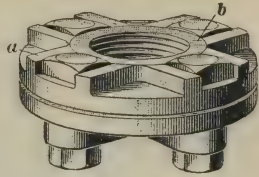

FIG. 41
**55.** Flange unions consist of cast plates having a threaded hole for the pipe, and are faced on one side; they are clamped tightly together by bolts, the bolt holes being either cored or drilled. Some flange unions have pockets on the outside of one flange, as shown at *a*, Fig. 41, in order to prevent the bolt from turning while the nut is being